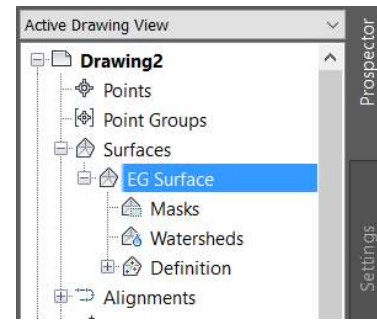

Figure 3-59 The **EG Surface** added to the **Surfaces** node of the **Prospector** tab
- Now, ensure that the **TIN surface** option is selected in the **Type** drop-down list of the **Create Surface** dialog box and choose the **OK** button; the dialog box is closed. Also, the surface is created and added to the **Surfaces** node of the **Prospector** tab of the **TOOLSPACE** palette, as shown in Figure 3-59.